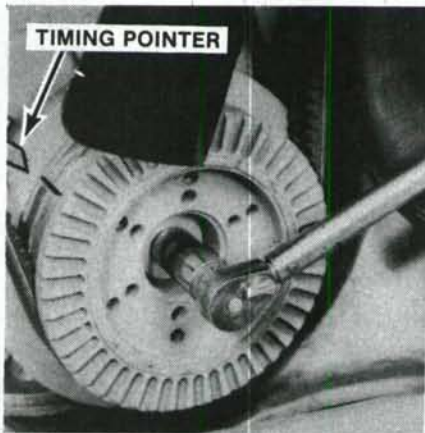

Fig. 45—To adjust valves, turn engine to TDC mark on crankshaft pulley as No. 1 Intake valve is closing.
44. VALVE (TAPPET) GAP ADJUSTMENT. The two position method of tappet gap adjustment is recommended. Turn crankshaft until No. 1 intake valve is closing and continue turning until TDC timing mark on crankshaft pulley is aligned with timing pointer as shown in Fig. 45. Adjust six valves indicated in upper section of Fig. 46.